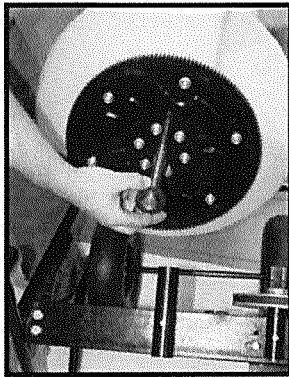

Fig.30: Slide washer onto mixer drum shaft.
1. Slide washer onto shaft of mixer drum (Fig.30).